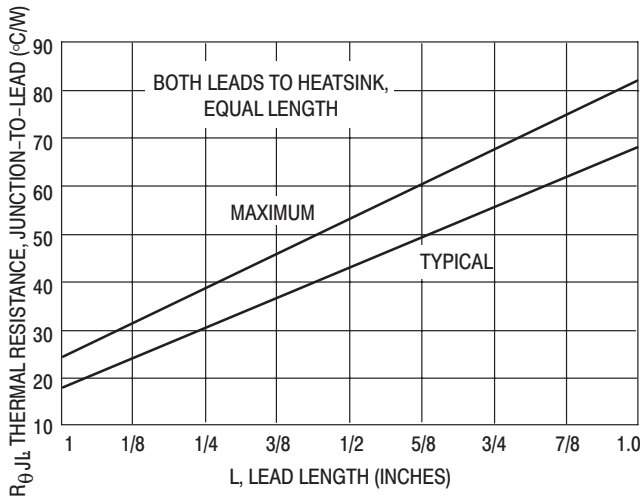

Figure 4. Steady-State Thermal Resistance
- Step 3. Find  $P_{F(AV)}$  from Figure 4. \*\*Read  $P_{F(AV)} = 0.5 \text{ W}$